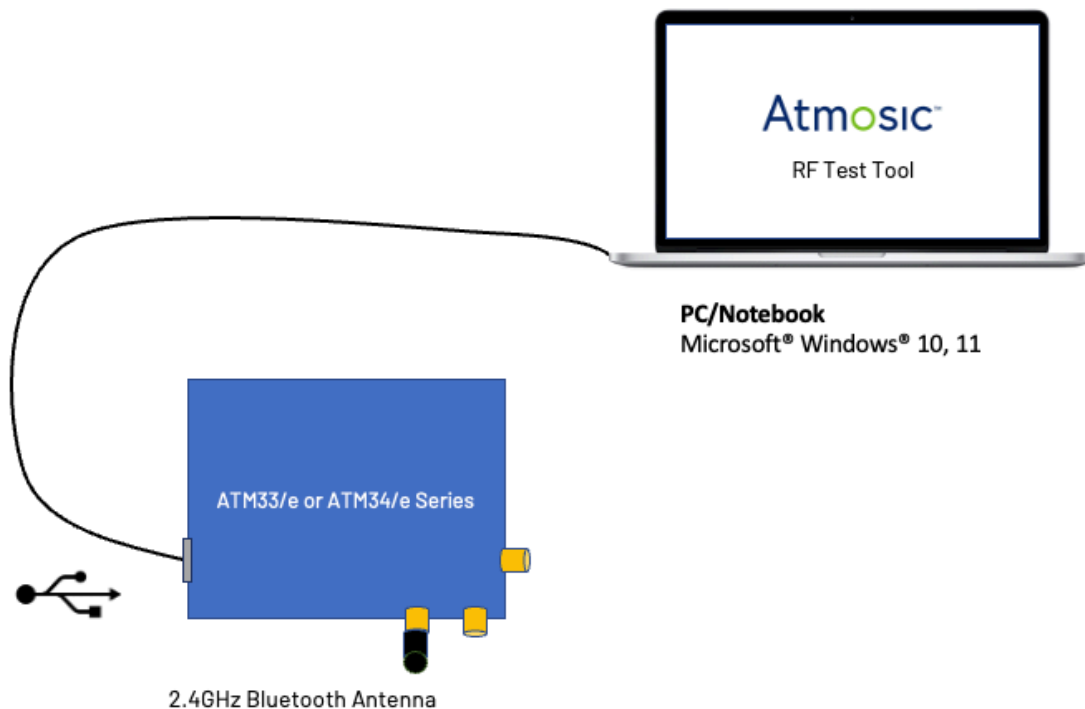

Figure 2 - RF Test Tool Hardware Environment for the ATM33/e or ATM34/e
- Figure 2 - RF Test Tool Hardware Environment for the ATM33/e or ATM34/e
Figure 2 shows the connection setup between the PC and the ATM33/e, ATM34/e Evaluation Board (EVB).